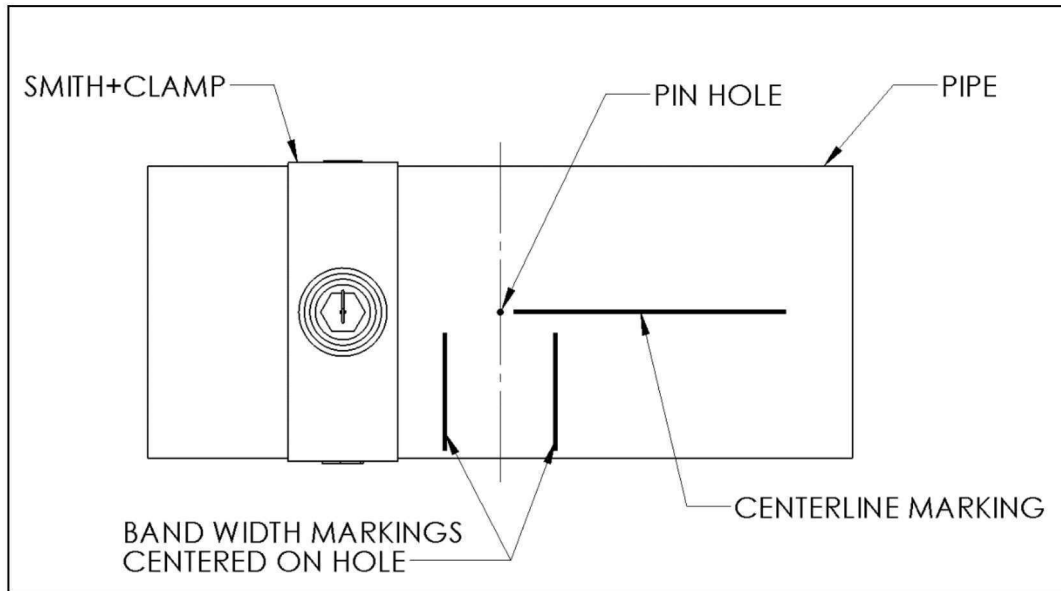

Figure 4
4. To assist with the alignment of the PLIDCO Smith+Clamp, it can be helpful to mark the location of the hole relative to the center of the seal cone by using a grease pen as shown in Figure 4. Mark a horizontal line longitudinally down the center of the pipe and 2 vertical lines centered around the hole that are the same width apart as the Smith+Clamp band.
5. Using the marking or pilot pin to locate the pinhole, slide the PLIDCO Smith+Clamp over the leak as shown in Figure 4. For Smith+Clamps with Teflon cones, you should be able to feel when the tip of cone aligns with pin hole.